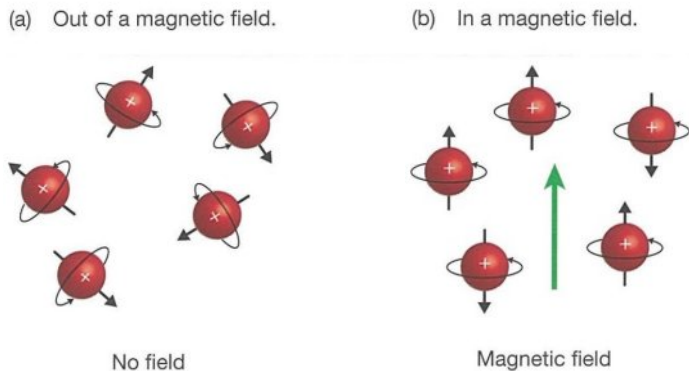

Figure 77.1 Spinning nuclei of atoms such as those of ^1H and ^{13}C .
- In a similar way, if these atomic nuclei are not in a magnetic field – as in Figure 77.1 (a) – they will be randomly oriented. This just means that their poles will point every which way.
But if you place these same nuclei in a strong magnetic field, they will all line up, the spin axis of each nucleus becoming parallel to the magnetic field. They might all point in the same direction as the magnetic field (as shown in Figure 77.1(b)), or they may all be against the magnetic field.